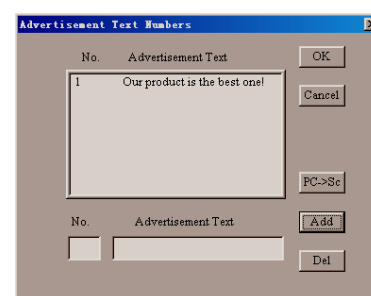

Fig. 6-21
- Here will show advertisement dialog box as fig. 6-21.